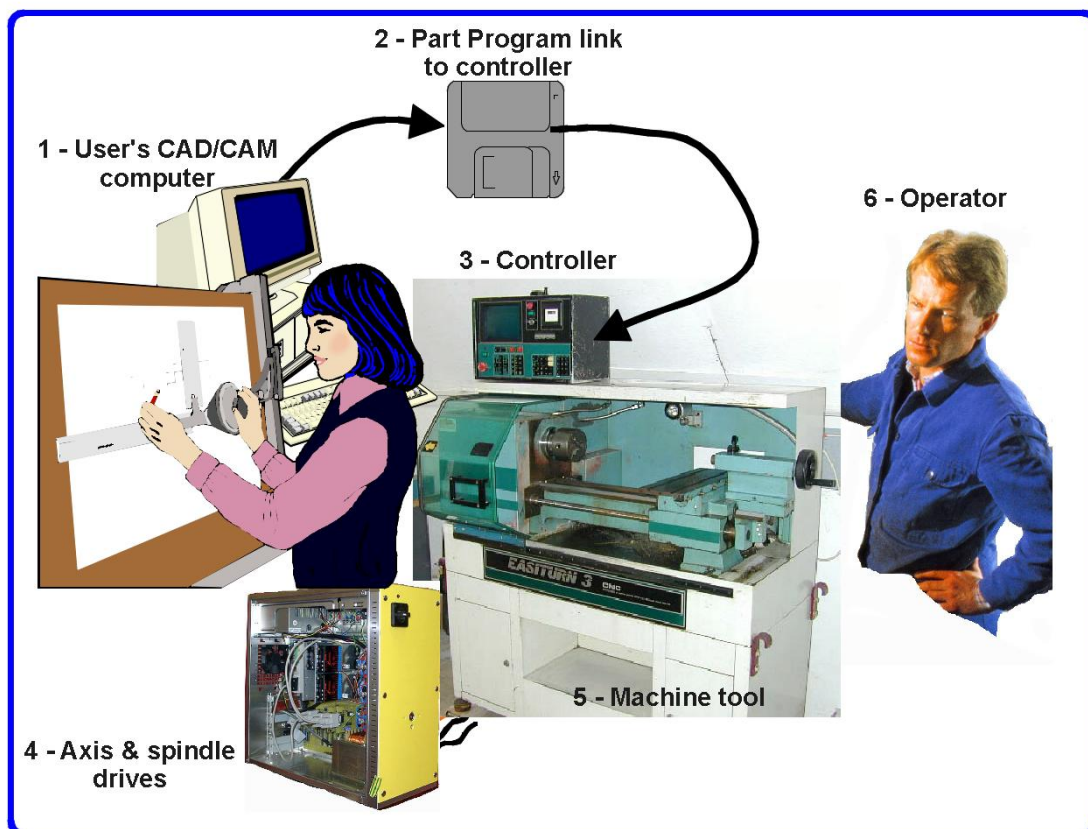

Figure 1.1 - Typical NC machining system
The main parts of a system for numerically controlled turning system are shown in figure 1.1
Mach3 is a software package which runs on a PC and turns it into a very powerful and economical Machine Controller to replace (3) in figure 1.1. It also includes features (called Mach Wizards) which allows you to program simple parts by entering data conversationally, thus avoiding the use of separate CAD/CAM software.
To run Mach3 you need Windows XP (or Windows 2000) ideally running on a 1GHz processor with a 1024 x 768 pixel resolution screen. A desktop machine will give much better performance than most laptops and be considerably cheaper. You can, of course use this computer for any other functions in the workshop (such as (1) in figure 1.1 - running a CAD/CAM package) but not when it is controlling your machine tool.